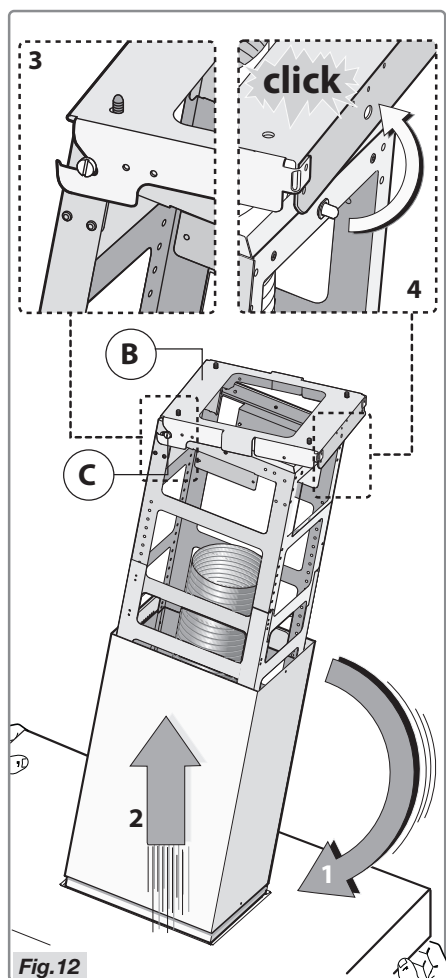

Fig. 12
- Tilt the hood as indicated in Figure 12 – step 1.
- Use the two pivot pins **C** that are already present in the construction to hang the hood on the bracket **B**. Figure 12 - steps 2-3.
- Put the hood in position so that the safety pin clicks in the gap in the bracket **B**. Figure 12 – step 4.